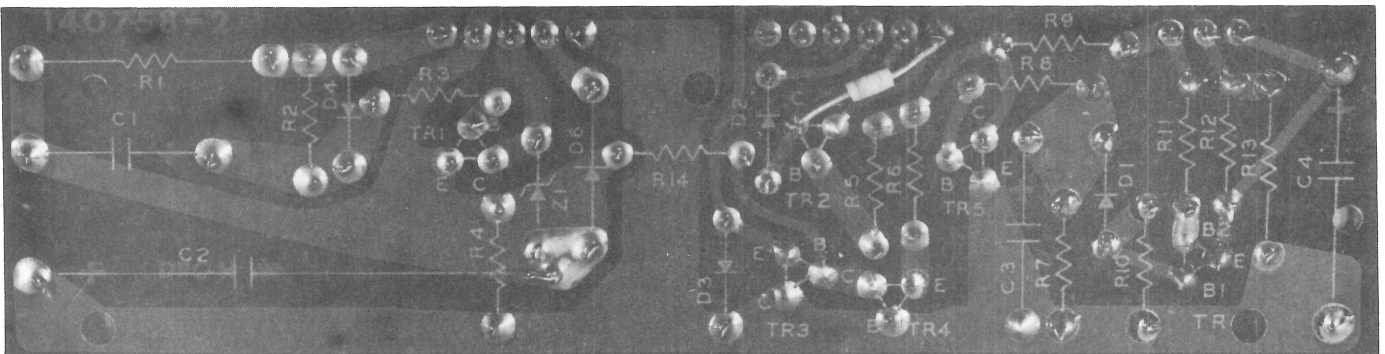

Figure 3
5. Connect and solder Diode, Part No. 76700-23, from the Emitter to the Collector of Transistor TR-2 (Cathode to Collector) as shown in Figure 3.